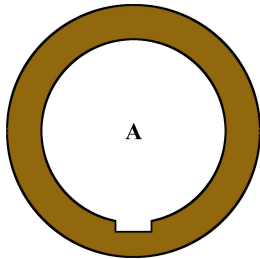

Figure 1
- **Step 2** Modify **three** of the four CR-5055 centering rings as shown in Fig. 1. Use a 1/8" wide sanding twig for best results.